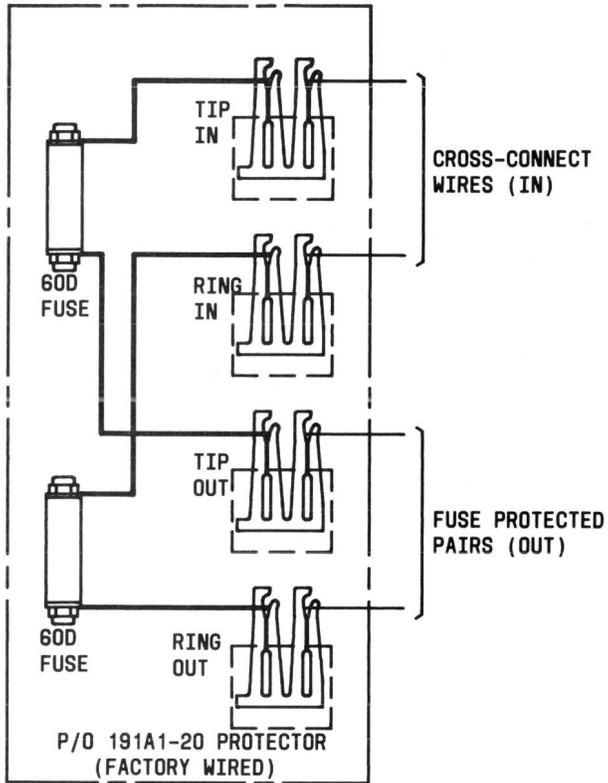

Fig. 86—191A1-20 Protector—Wiring Diagram
10.10 A wiring diagram of the 191A1-20 protector is shown in Fig. 86. Pairs requiring sneak current protection are cross-connected to the 191A1-20 protector as indicated (TIP IN, RING IN). Factory wiring is provided through the fuses to TIP OUT and RING OUT connectors.